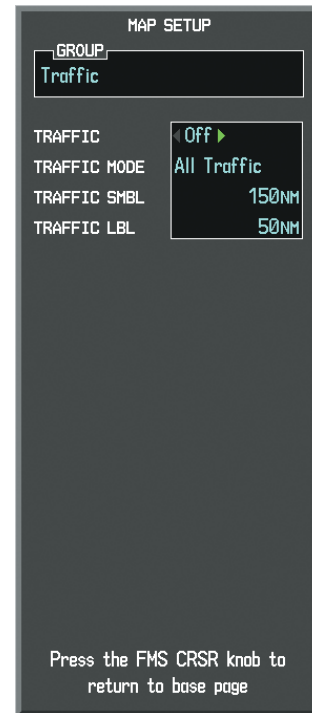

Figure 6-143 Navigation Map Page Setup Menu, Traffic Group
- 5) Turn the large **FMS** Knob or press the **ENT** Key to scroll through the selections (Figure 6-143).